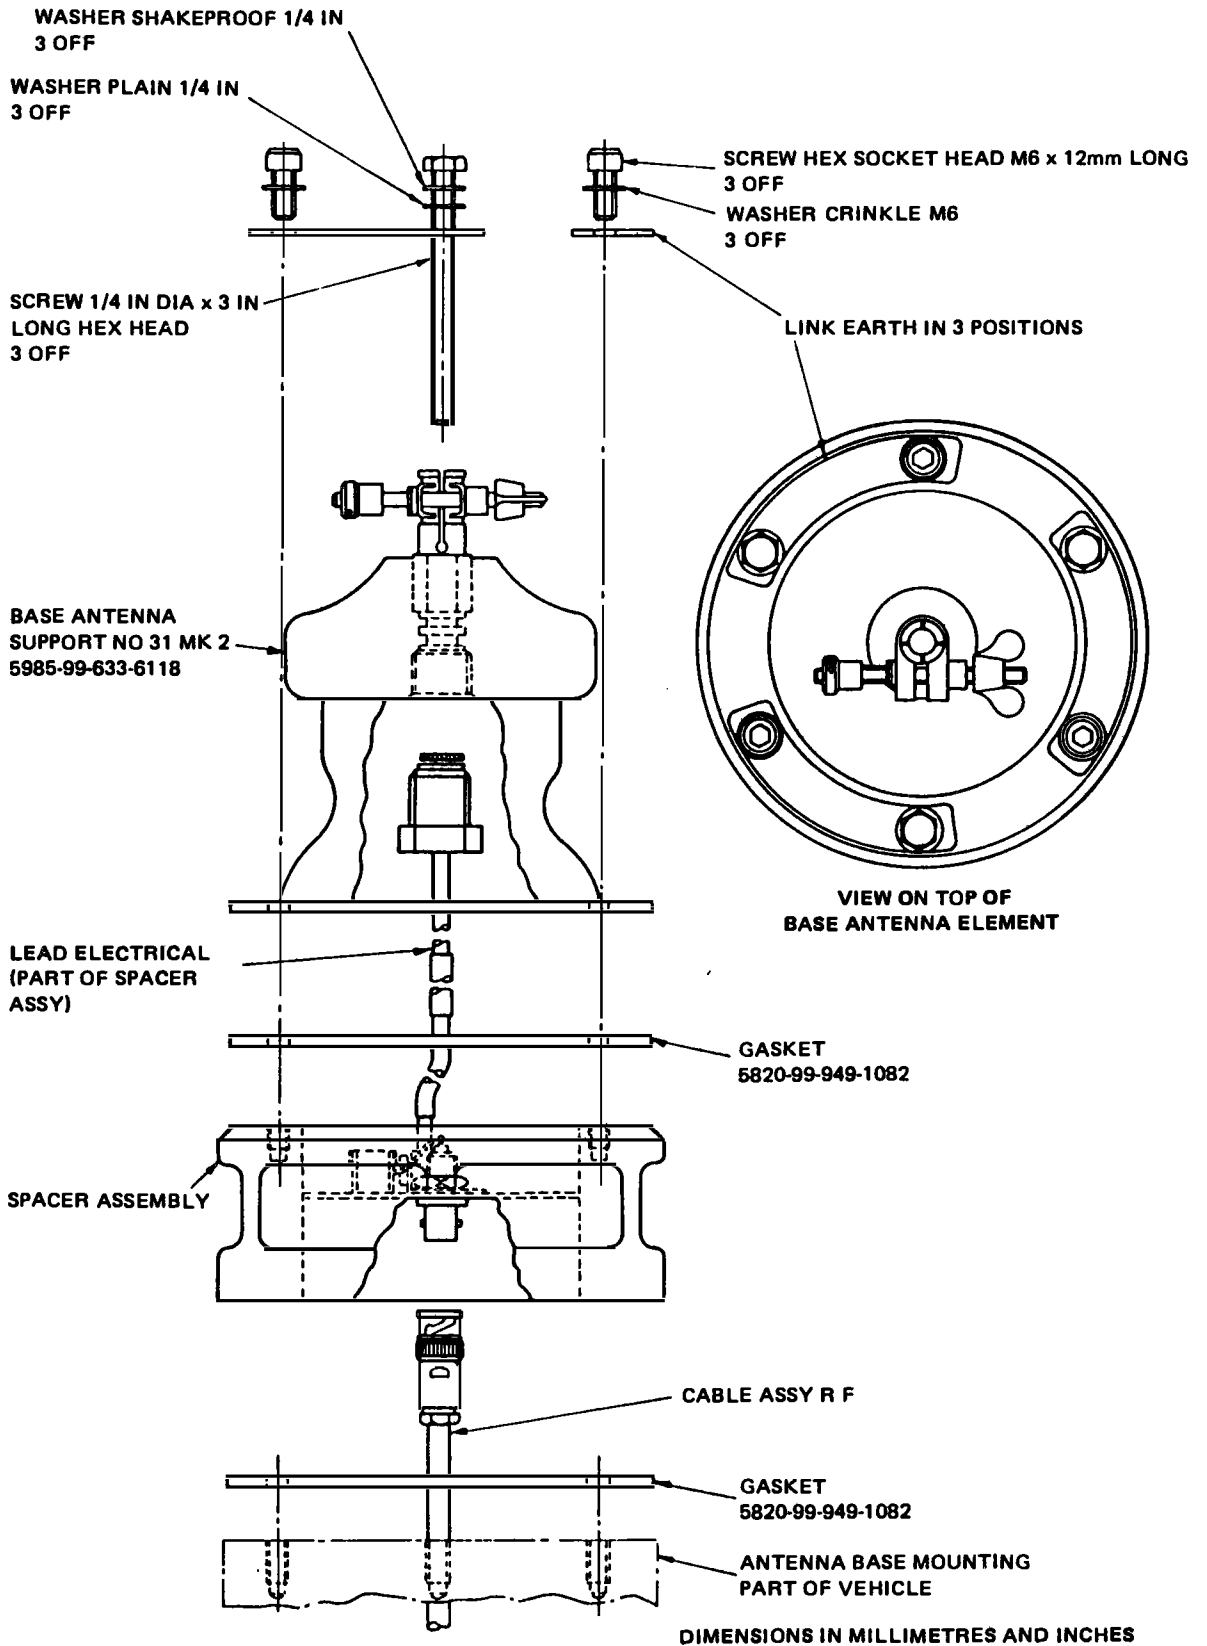

Fig 9 Antenna base assembly diagram
13.9.4 Assemble the base antenna element (3) in a similar manner as shown in Fig 9 and connect the co-axial BNC socket of cable assembly (15) to the base. Leave the assembly in position using three bolts (26) and washers (31 and 33).